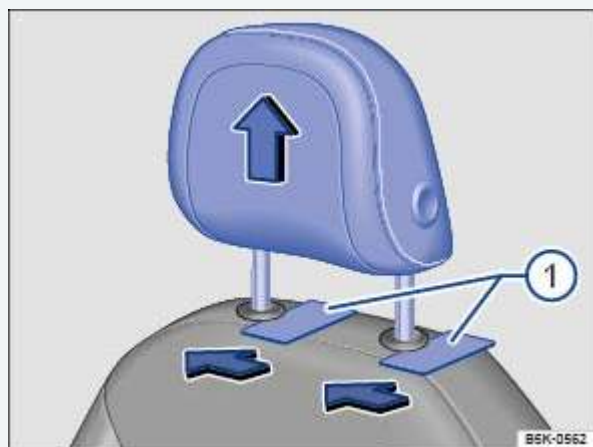

Fig. 46 Removing the front head restraints.
- Slide a flat object, such as a plastic credit card, underneath the right side of the cap (left side if sitting behind the head restraint) on the right-hand seat guide rod ⇒ Fig. 46① to unlock the head restraint.
- Push the head restraint down $\Rightarrow$ Fig. 46.